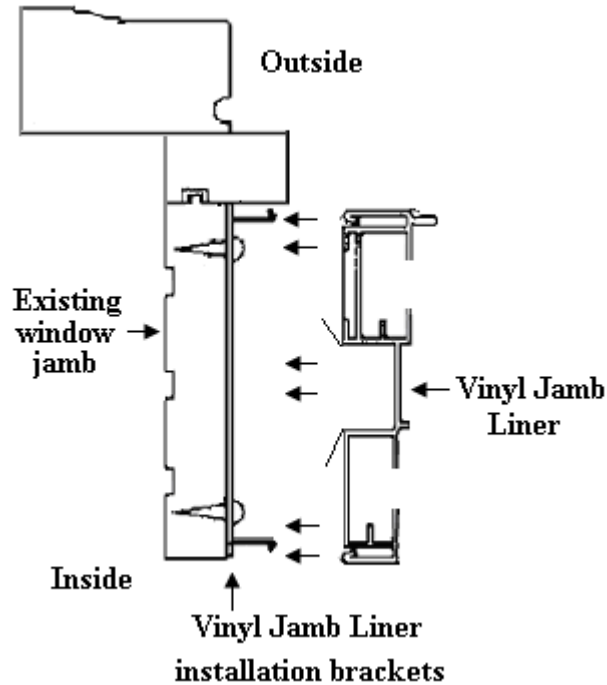

Figure 6
6. Place vinyl jamb liner against the installation brackets and snap into place, see figure 6.